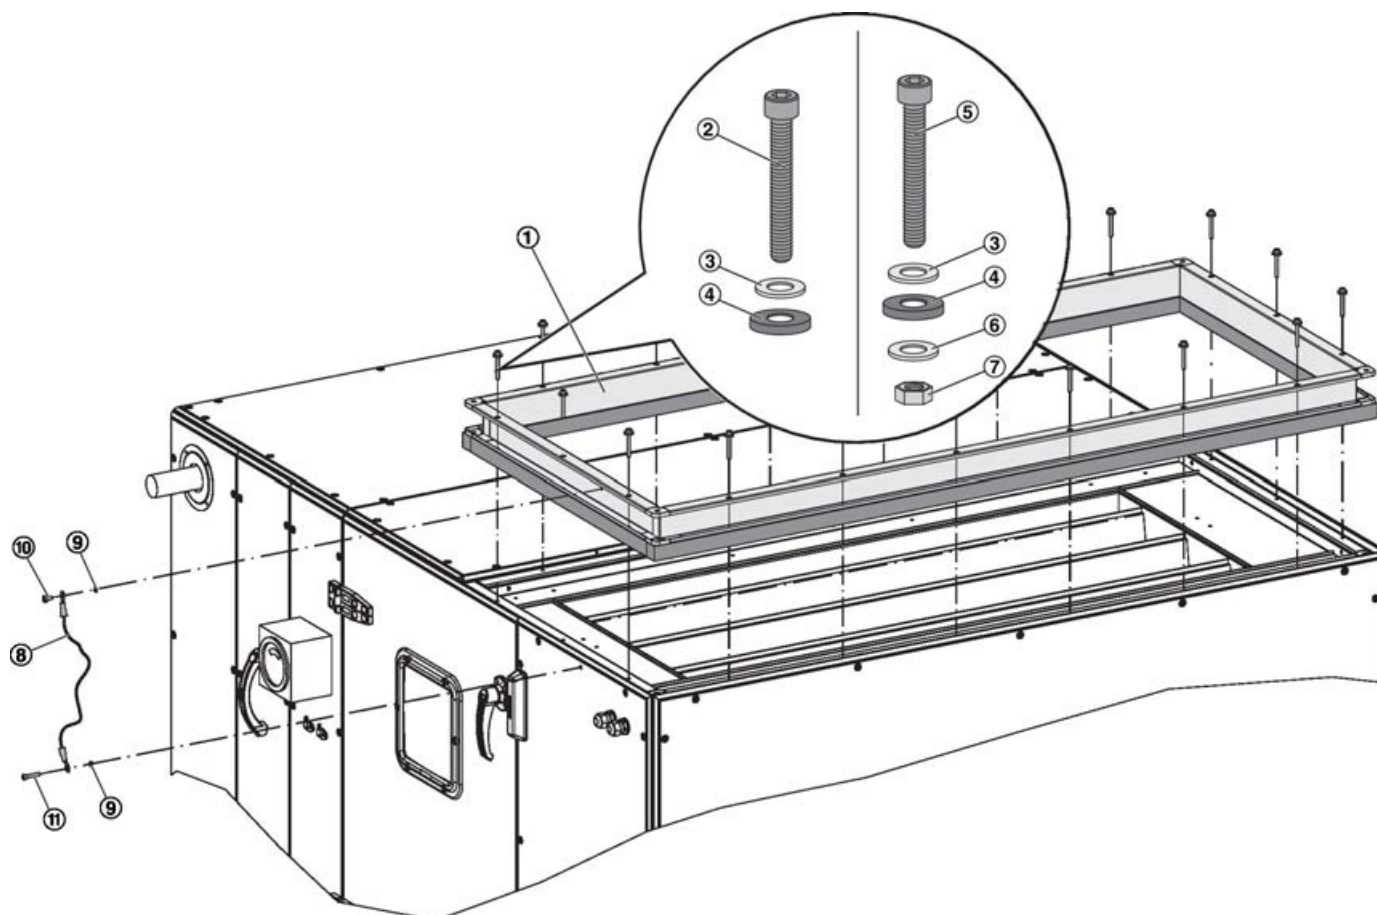

Fig. 17: Installing the noise insulating connector
⑩	Pan head screw M6 × 12	M852AC6
⑪	Socket cap head screw M6 × 30	M852AC4
- Place the noise insulating connector (Fig. 17 /1) on the air handling unit with the perimeter seal facing down; fix it with thread forming screws (Fig. 17 /2), rubber seals (Fig. 17 /4) and washers (Fig. 17 /3).
If the noise insulating connector is to be attached to a multileaf damper, fix it with the supplied socket cap head screws (Fig. 17 /5), rubber seals (Fig. 17 /4), washers (Fig. 17 /3 and 6) and nuts (Fig. 17 /7).
- Fix one eye of the ground cable (Fig. 17 /8) with a pan head screw M6 × 12 (Fig. 17 /10) and a serrated lock washer (Fig. 17 /9) to the noise insulating connector.
- Fix the other eye of the ground cable with a socket cap head screw M6 × 30 (Fig. 17 /11) and a serrated lock washer through the panel sheet to the tubular frame of the air handling unit.